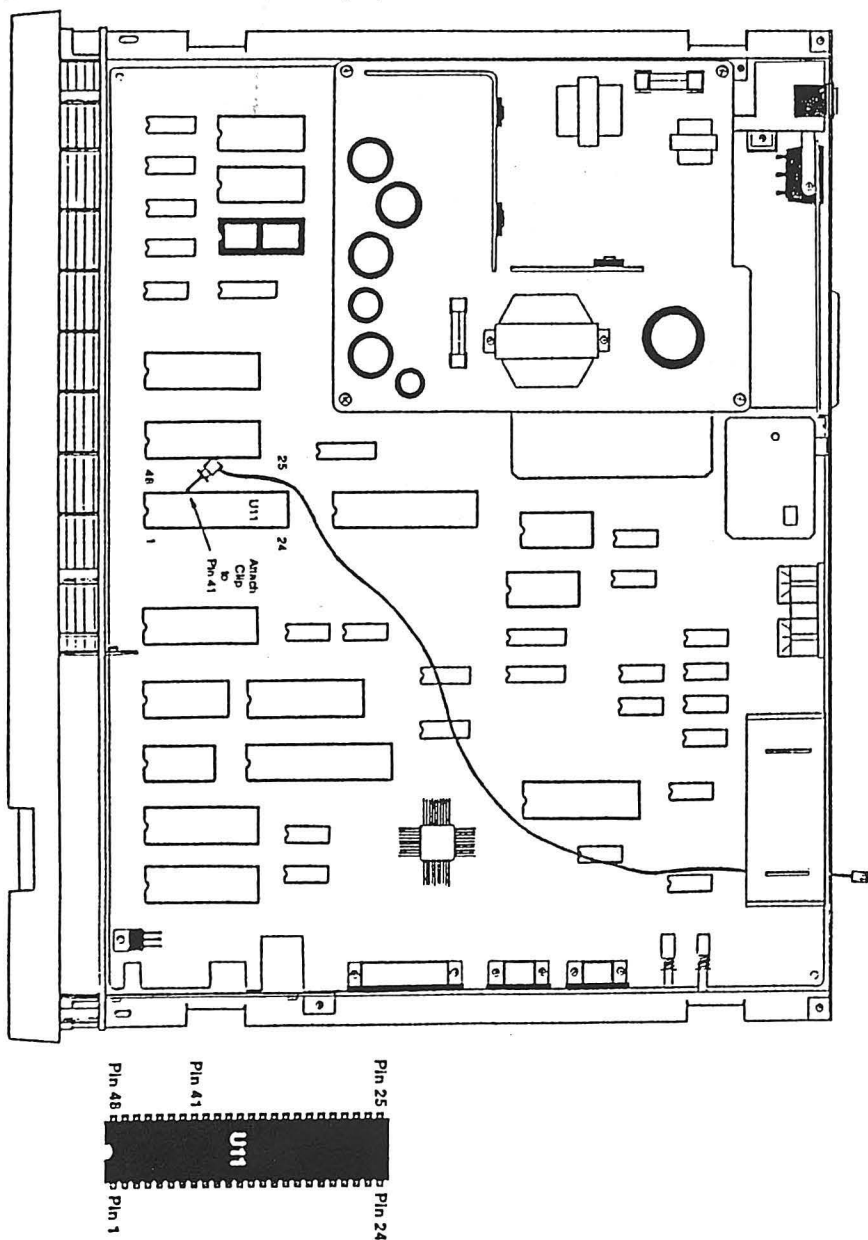

Figure 2
7. Locate the PLA chip which is the integrated circuit labeled U11. Attach the clip to pin 41 of this IC as shown in Figure 2.